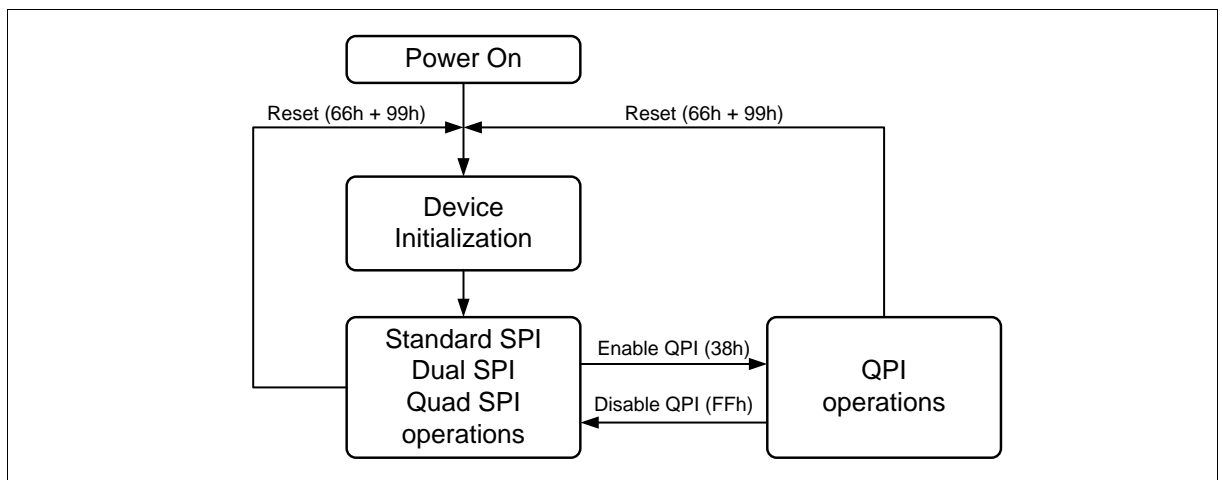

Figure 2 FM25Q02 Serial Flash Memory Operation Diagram
The FM25Q02 supports Quad Peripheral Interface (QPI) operations only when the device is switched from Standard/Dual/Quad SPI mode to QPI mode using the “Enable QPI (38h)” instruction. The typical SPI protocol requires that the byte-long instruction code being shifted into the device only via DI pin in eight serial clocks. The QPI mode utilizes all four DQ pins to input the instruction code, thus only two serial clocks are required. This can significantly reduce the SPI instruction overhead and improve system performance in an XIP environment. Standard/Dual/Quad SPI mode and QPI mode are exclusive. Only one mode can be active at any given time. “Enable QPI (38h)” and “Disable QPI (FFh)” instructions are used to switch between these two modes. Upon power-up or after a software reset using “Reset (99h)” instruction, the default state of the device is Standard/Dual/Quad SPI mode. To enable QPI mode, the non-volatile Quad Enable bit (QE) in Status Register-2 is required to be set. When using QPI instructions, the DI and DO pins become bidirectional DQ_0 and DQ_1 , and the WP# and HOLD# pins become DQ_2 and DQ_3 respectively. See Figure 2 for the device operation modes.